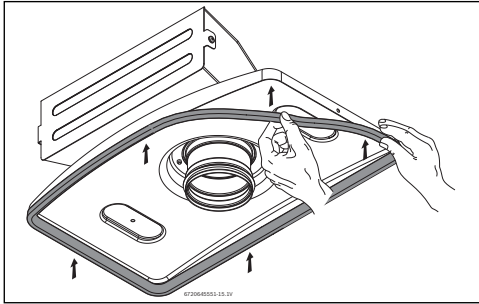

Fig. 6
- ▶ 3. Attach the gasket provided with the kit as shown in Fig. 6.